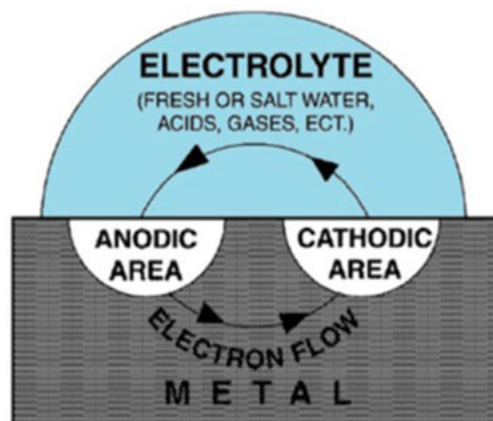

Figure 3-1. Simplified corrosion cell.
As you study the electrochemical process of corrosion, you will find that corrosion is a flow of electricity between certain areas on a single metal surface or between two different kinds of metals. For the electrochemical-corrosion process to occur there must be four components: (1) anode, (2) cathode, (3) metal path (conductor), and (4) electrolyte (fig. 3-1). If you remove any one of the four components, the corrosion will stop.